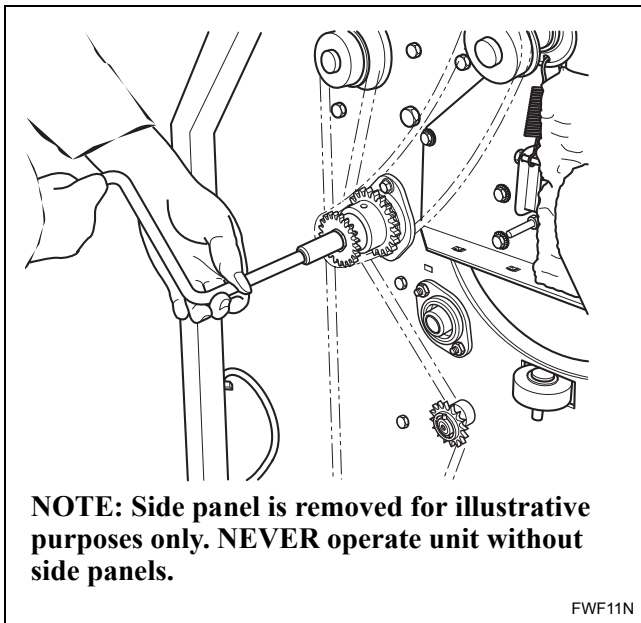

Figure 21
2. Turn the crank clockwise to rotate the cylinder. Refer to *Figure 21*.